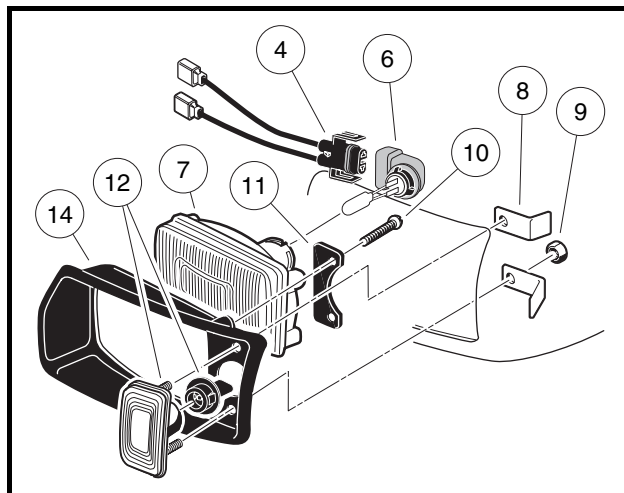

Figure 12-29 Headlight Assembly
3. From the front of vehicle, reach under cowl and turn the wire harness/halogen bulb assembly (4 and 6) clockwise one-quarter turn (**Figure 12-29, Page 12-26**).
4. Remove the wire harness/halogen bulb assembly (4 and 6) from the headlight lens (7).
5. Lift the retaining tabs on the connector (4) and remove halogen bulb assembly (6).
1. Connect wire harness (4) to the halogen bulb assembly (6). The retaining tab should lock onto the halogen bulb assembly (**Figure 12-29, Page 12-26**).
2. From the front of vehicle, reach under cowl and insert wire harness/halogen bulb assembly (4 and 6), into the headlight lens (7).